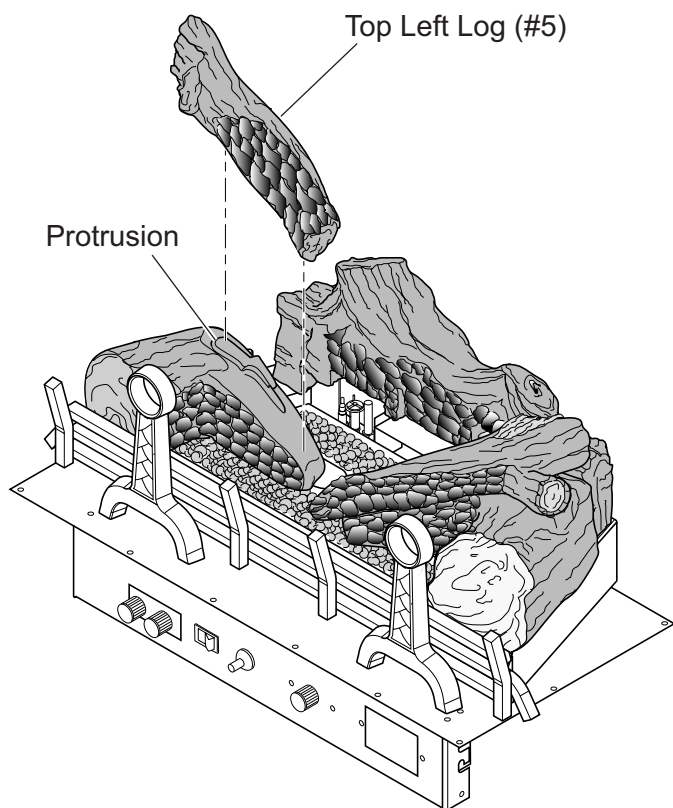

Figure 50 - Installing Right Top Log (#5)
5. Line up the indentation on bottom of top left log (#5) with the protrusion on top of bottom left log. See *Figure 50*.